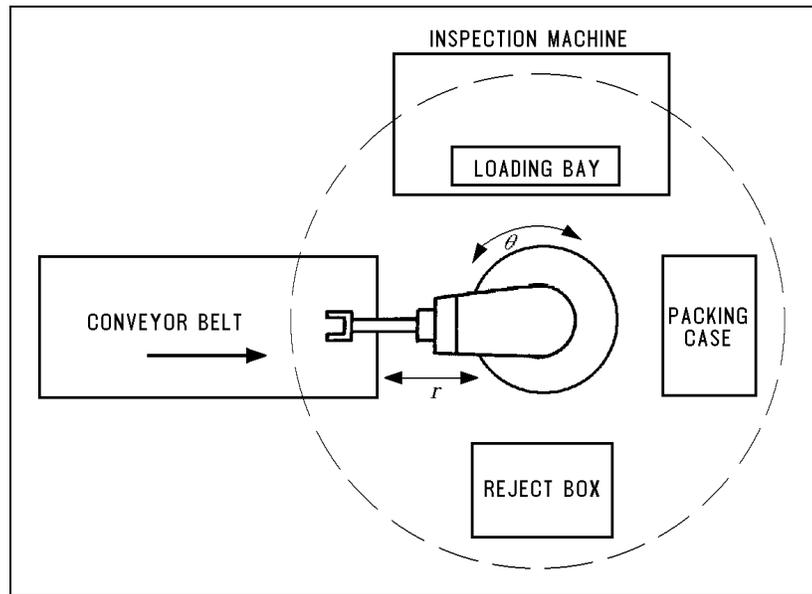

Figure 15-2
- 2 Create a program for the application shown in Figure 15-2.